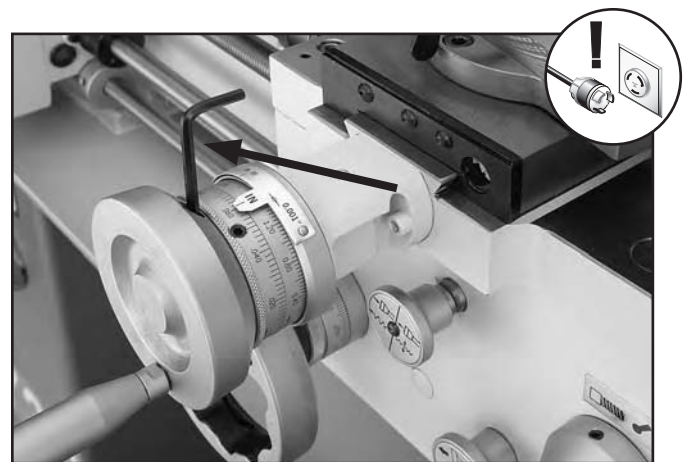

Figure 123. Loosening the cross slide handwheel set screw.
2. Loosen the handwheel set screw (see **Figure 123**), then remove the handwheel from the leadscrew.